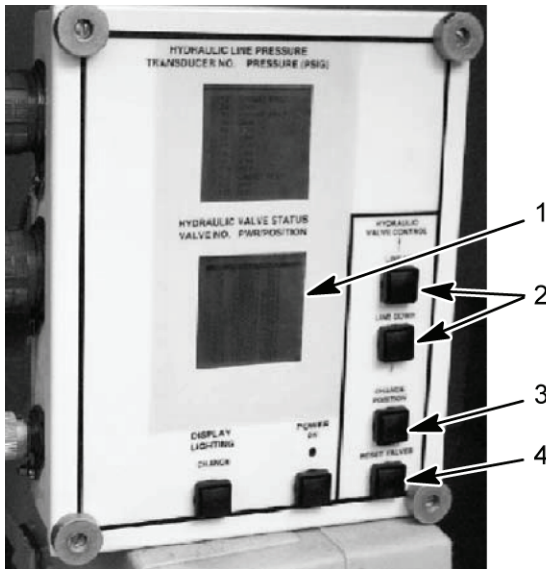

Figure 10. HDC Control Box
- Reset all HDC solenoid valves by selecting the RESET VALVES button (Figure 10, item 4) on the HDC control box.
- Manually close the ejector inhibit ball valve V23 (Figure 11, item 1) on the DCV bank. Using LINE UP or LINE DOWN button (Figure 10, item 2), select V1 on the HDC display (Figure 10, item 1). Close V1 on the HDC display (Figure 10, item 1) by selecting the CHANGE POSITION button (Figure 10, item 3) on the HDC control box.